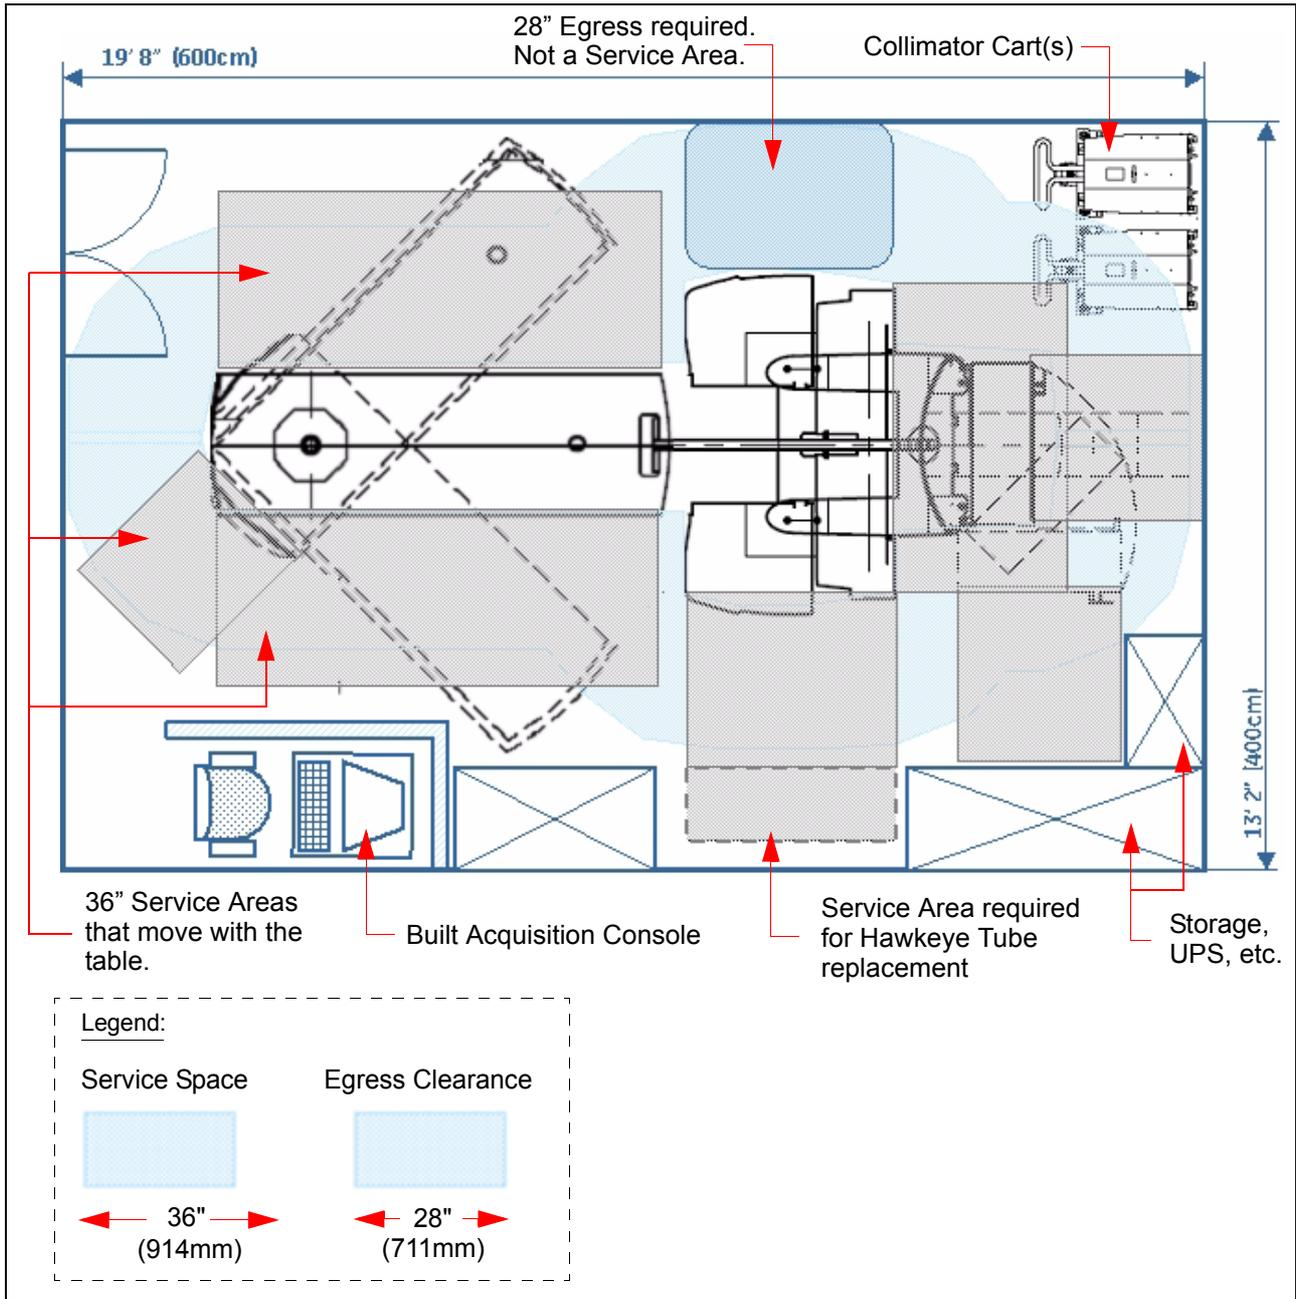

Figure 4-5 Typical Room Layout
Figure 4-5 shows a typical (standard) room layout drawing showing location of all basic units for a Hawkeye 4 system. Observe that requirements for clinical access, and for peripheral clinical equipment placement, such as storage cabinets, sinks, etc., must be taken into considerations during the room layout.
- All gantry service done on the right side as shown in Figure 4-5.
- Table rotates for rear service access, as shown in Figure 4-5.